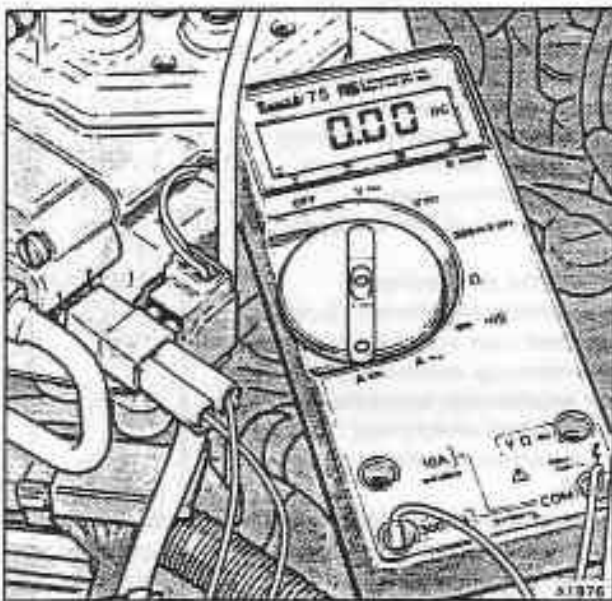

Fig. B3-23 Multimeter connected in 'series' with the EHA
4. Leave the three-way electrical plug to the throttle position switch disconnected. Connect a digital multimeter in 'series' with the electro-hydraulic actuator using the adapter RH 9893 (see fig. B3-23). Set the meter to read milliamps.